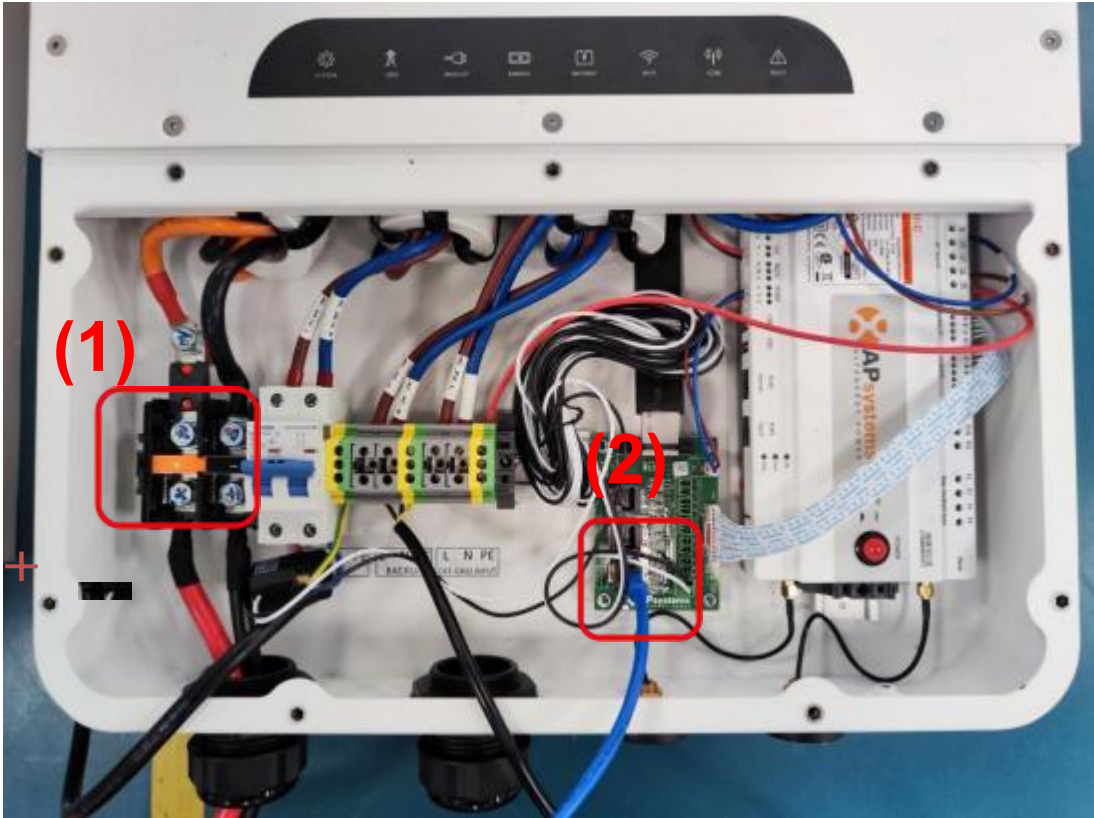

Figure 1.1 APS inverter power and comm Connectors
1. Connect the power cables between inverter and battery or the Busbar. The battery connector is (1) shown in figure 1.1
2. Plug in the battery end into the **CAN port** of the Pytes battery (check page 2) and plug in the inverter end into APS Battery **CANBus** Port (2) as shown.